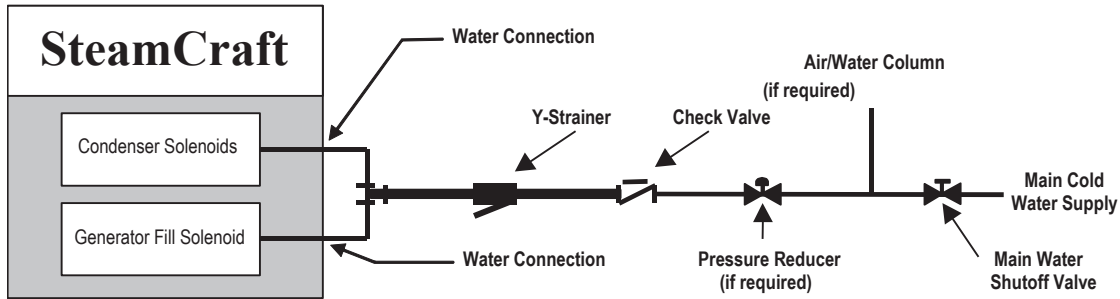

Figure 3-2 Cleveland Range Single Water Supply Arrangement
- b. If the static pressure is above 60 psi, a pressure regulator must be used and set at approximately 50 psi. Pressure above 60 psi can damage solenoid valves. See Figures 3-2 and 3-3.
- c. If the supply water meets the requirements shown in the Warranty, then the Single Water Supply Arrangement shown in Figure 3-2 may be used.